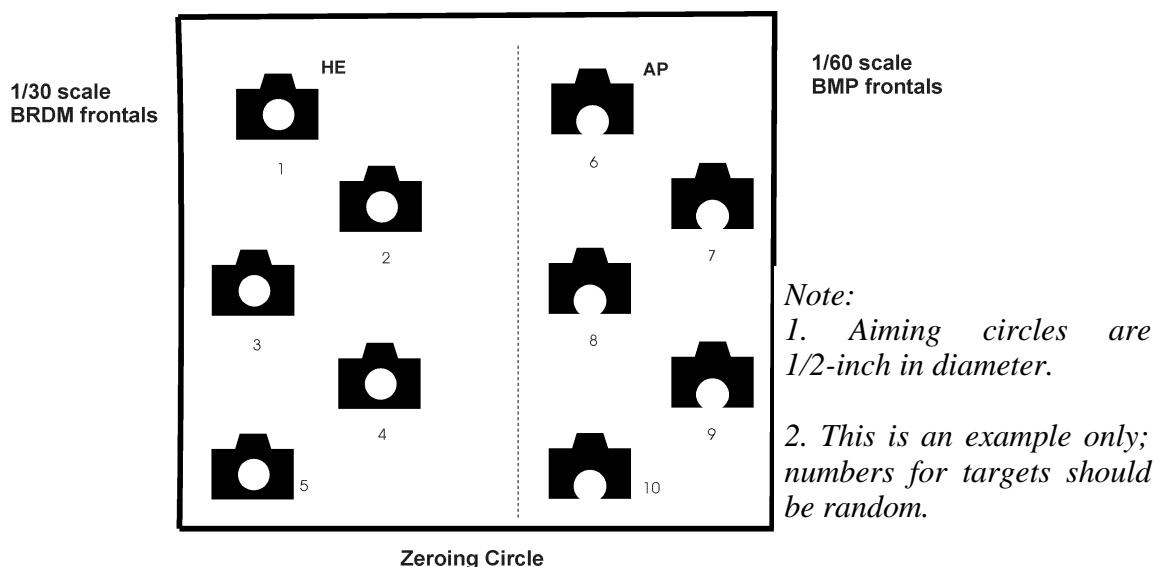

Figure E-2. Scaled Target Panel.
Table 2 uses the VAD and a scaled target panel (fig. E-2) that is manufactured locally. The scaled target panel is placed 23 meters in front of the firing vehicle, and the targets are sized in accordance with figure E-2. Crewmembers must hit four of five high explosive (HE) targets within the center mass circle and four of five armor piercing (AP) targets within the 6 o'clock circle.